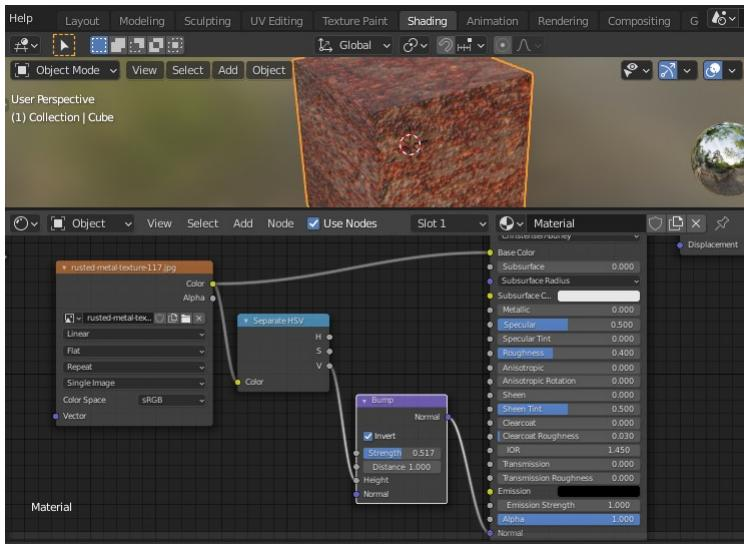

Figure 4-2 The first part of the rusty_fridge Material
8. Start Blender, leave the default Cube selected and change the workspace to **Shading** using the tab right at the top of Figure 4-2.
Your material will have two shader outputs, one for the rust and one for the smooth surface. The rust shader will need the rust image for the basic color but you can also use the image to create a pseudo bumpiness. In the Shader Editor you will add three nodes and connect them to the Base Color and Normal of the default Principled BSDF Shader as I have in Figure 4-2